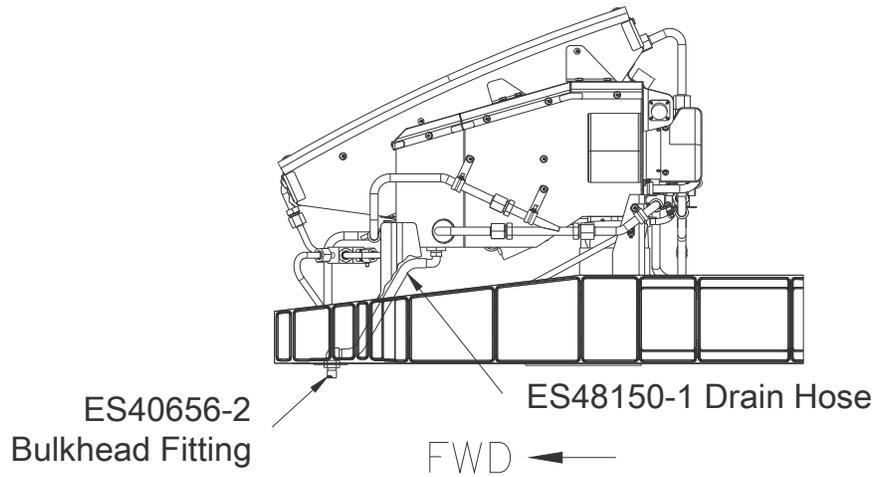

Figure 8: View of Left Aft Evaporator Assy Looking Inboard from LH Side
2. Remove left aft evaporator assembly and discard. Remove water drain line from left evaporator, see Figure 8.
3. Remove and discard left aft evaporator mounting brackets. Re-install screws into condenser housing, see Figure 8.
5. Remove and discard the following components, see Figures 8, 9 & 10.